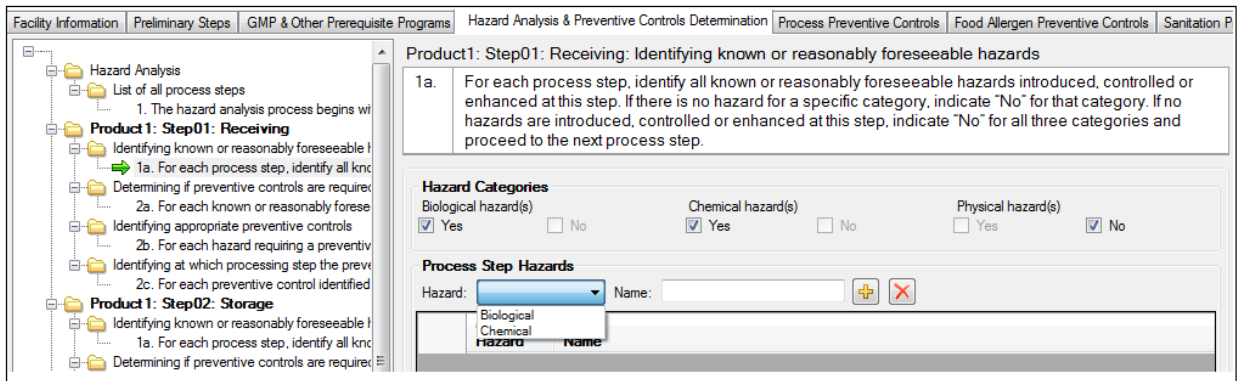

Figure 42: Question 1a – Selection of Hazard Categories and Hazard(s)
Step 3: Click the "+" button. Repeat steps 2 and 3 to add other hazards (Figure 42).